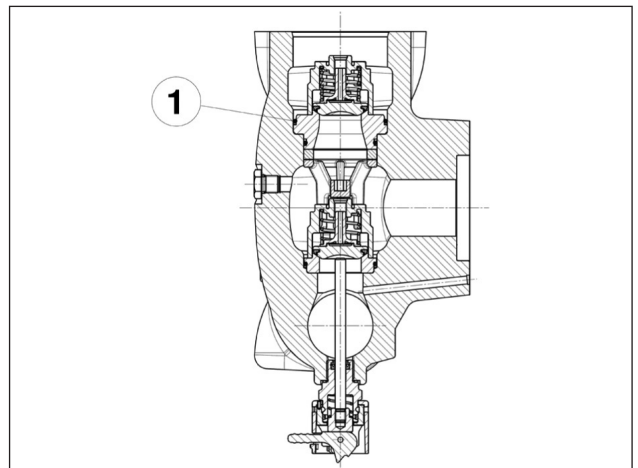

Fig. 122
**Pay special attention to O-ring insertion indicated in pos. ①, Fig. 122. Use a special tool code 27516000 to prevent that the O-ring can cut itself during insertion.**